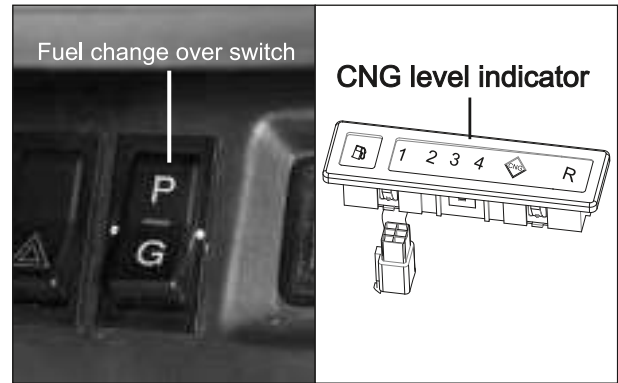

Fig. 6.73
- The gas solenoid is located in the engine cabin mounted on RH longitudinal member. The DC output wire orange (Or) from the ignition switch is connected to the Changeover switch. The changeover switch is connected to the gas Level indicator, CNG through a 5A fuse and via Blue with Black tracer (BIB) wire. The supply to the gas solenoid is through a red (R) wire. The gas solenoid is earthed through Black with White trace (BW) wire to the battery. (Fig. 6.73)